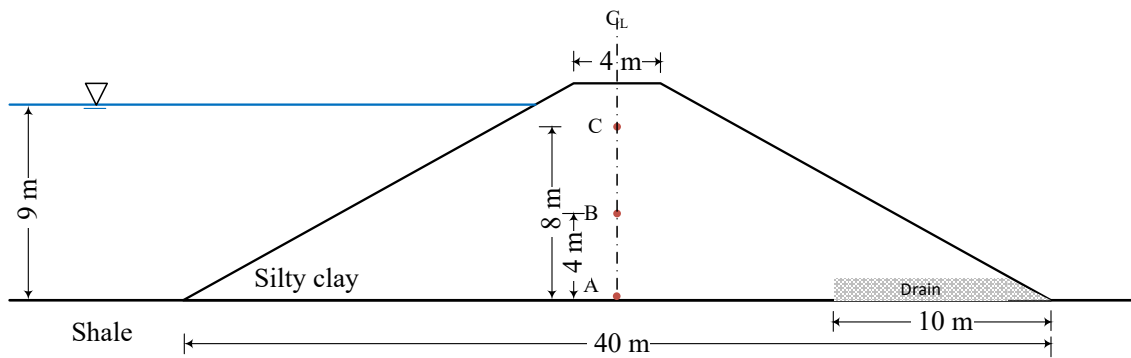

Fig. 1
- (b) An earth dam that is 10 m high holds a reservoir of water 9 m deep as shown in Fig. 1. The earth dam is constructed by compacting silty clay and is founded on an impermeable Shale rock formation as shown in Fig. 1. A highly permeable blanket drain that extends 10 m into the dam is provided to protect the downstream slope as shown in Fig. 1. The saturated unit weight of the silty clay is  $19.5 \text{ kN m}^{-3}$  and its hydraulic conductivity is  $3.8 \times 10^{-9} \text{ m s}^{-1}$ . It may be assumed that the silty clay has a high air entry value.
- (i) Draw a 'flow net' at steady state seepage of the problem on a scaled diagram of Fig. 1. Highlight any limitations of the flow net that you have constructed. [20%]
- (iii) Estimate the pore water pressures at points A, B and C that lie on the centre line of the earth dam as shown in Fig.1. [20%]